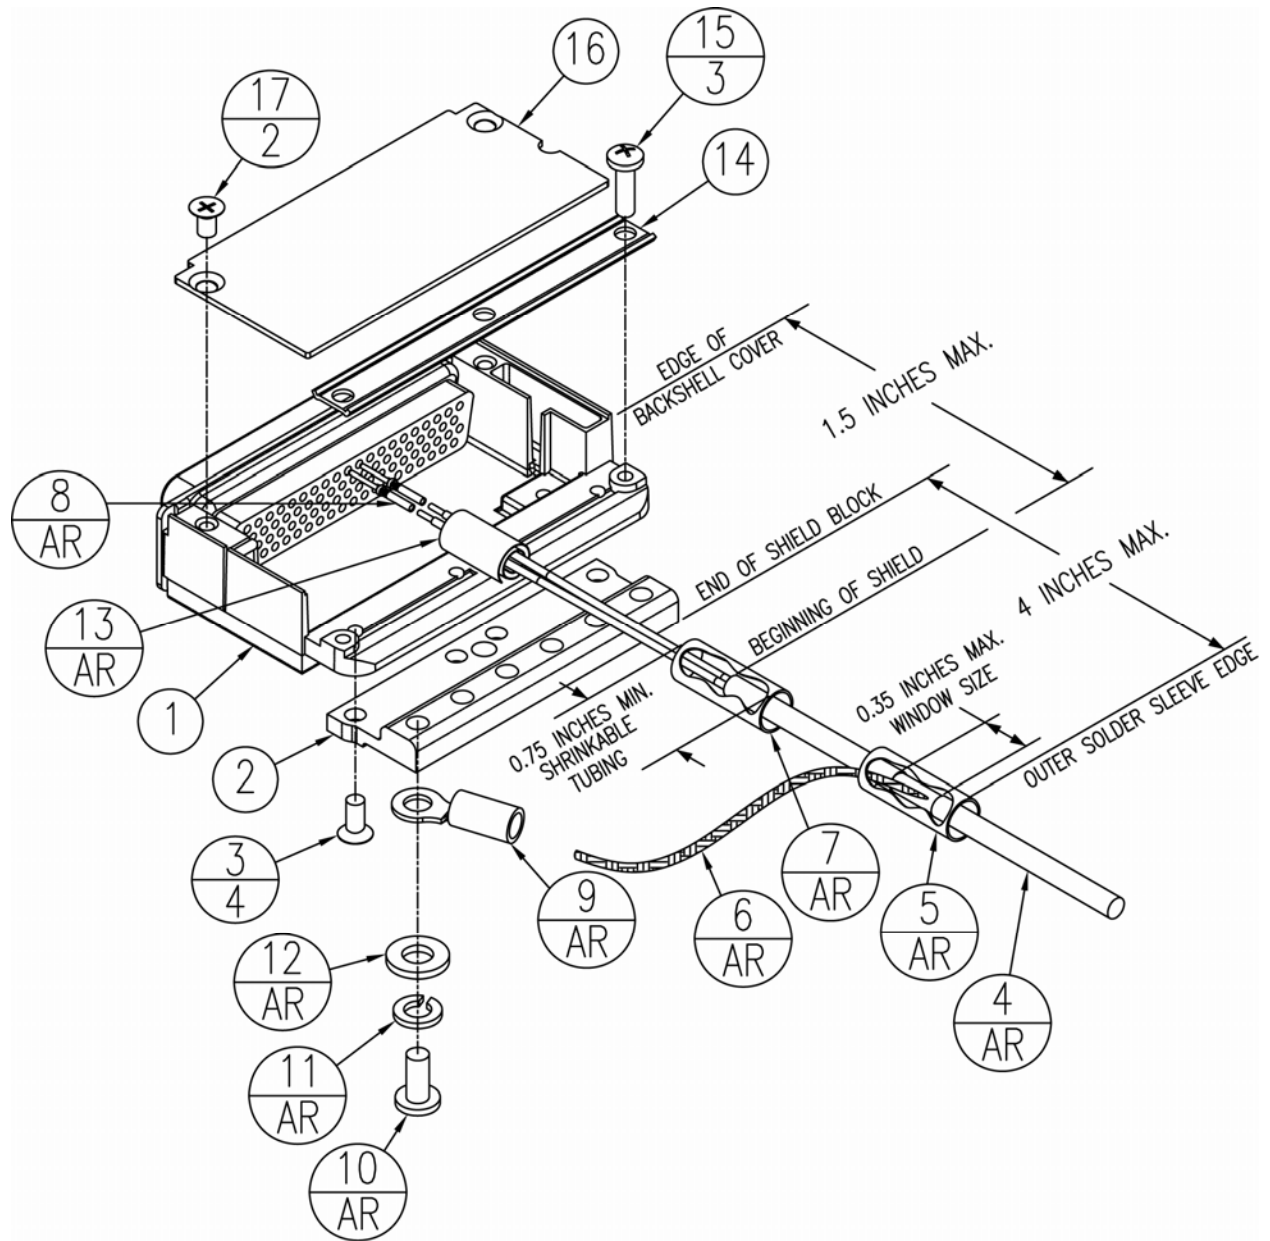

Figure 12-1. Shield Block Install onto a Backshell (78 pin example)
Table 12-1. Parts needed for a Shield Block Installation (see Figure 12-1)
1. Attach the Shield Block(s) (item 2) to the backshell (item 1) by inserting the flathead screws (item 3) through the holes on the Shield Block and threading into the tapped holes on the backshell (item 1) (see Figure 12-1). The appropriate number of Shield Block kits will be included in the particular LRU connector kit, but Table 12-4 lists possible configurations.
5. Strip back 0.125 inches of insulation and crimp a pin (item 8) to each of the conductors in the shielded cable.
7. Cut the Flat Braid (item 6) to a length that, with the addition of a ring terminal, will reach one of the tapped holes of the Shield Block (item 2) (see Figure 12-1). An appropriate amount of excess length without looping should be given to the Flat Braid (Item 6) to allow it to freely move with the wire bundle.